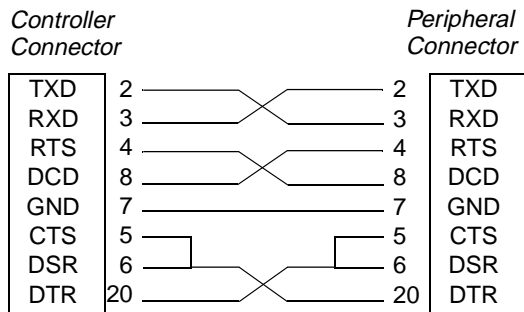

FIGURE 9. Asynchronous Null Modem Cable (DTR Handshaking)
- DTR supports hardware handshaking when the peripheral uses the *Data Terminal Ready* (pin 20) signal (see Figure 9).